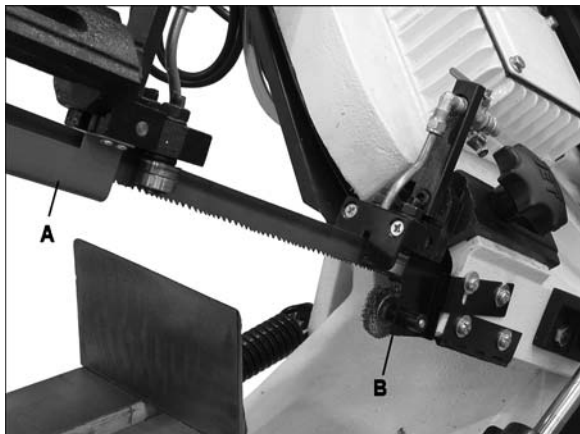

Figure 19
3. Remove red blade guard (A, Figure 19) by removing two screws.
4. Remove brush assembly (B, Figure 19) by removing two screws.
The chip brush (B, Figure 19) must be properly adjusted and maintained in working condition; otherwise damage to blade can occur. Adjust the brush so that its bristles overlap the blade.